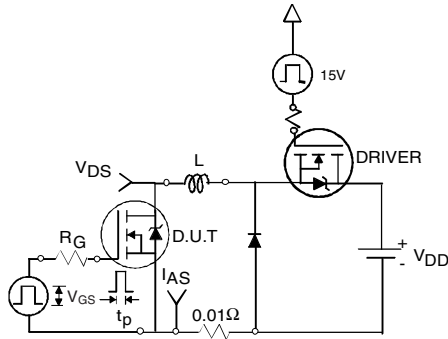

Fig 12a. Unclamped Inductive Test Circuit
- ④ Pulse width $\leq 400\mu s$; duty cycle $\leq 2\%$.
- ⑤ $C_{oss \text{ eff.}}$ is a fixed capacitance that gives the same charging time as C_{oss} while V_{DS} is rising from 0 to 80% V_{DSS} .
- ⑥ Limited by T_{Jmax} , see Fig.12a, 12b, 15, 16 for typical repetitive avalanche performance.
3. Equation below based on circuit and waveforms shown in Figures 12a, 12b.